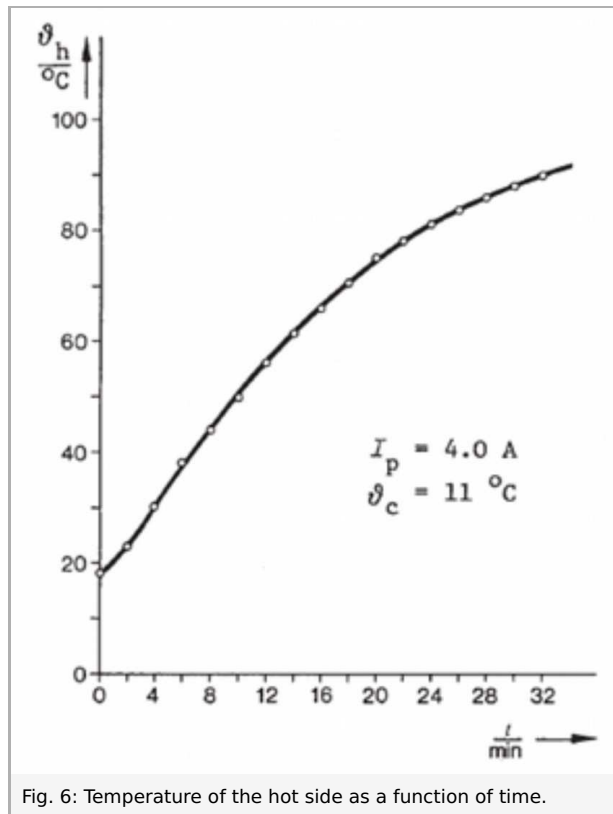

Fig. 6: Temperature of the hot side as a function of time.
2. From the slope of the curve in Fig. 6 (where the curve starts off as a straight line) we can calculate the pump heating capacity